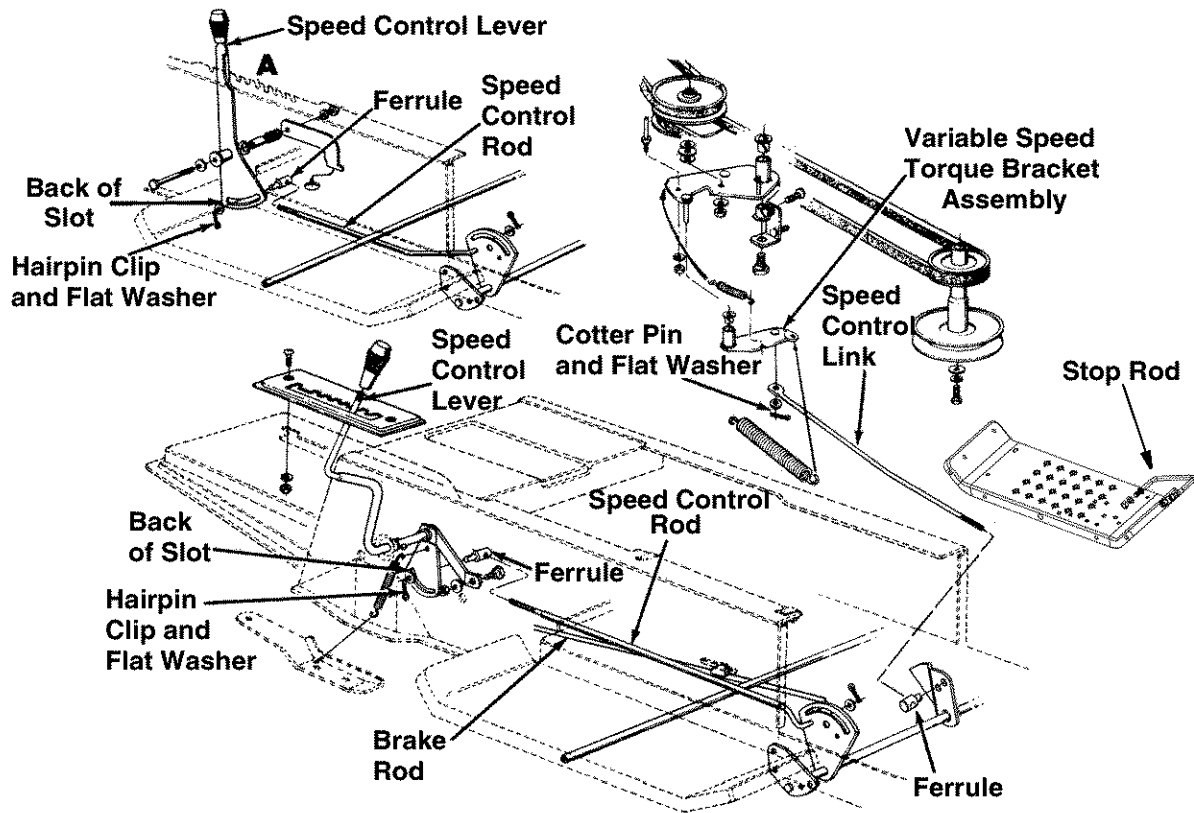

Figure 17
- Adjust the speed control lever by pushing the clutch-brake pedal forward until it hits the stop rod on the running board. See Figure 17. Have another person hold the pedal in this position as you make the following adjustment. Place the speed control lever in parking brake position. Remove the hairpin clip and flat washer, and adjust the ferrule on the rod so it is against the back end of the slot. See Figure 17. Then lengthen rod one more turn. Reassemble and secure with the flat washer and hairpin clip.